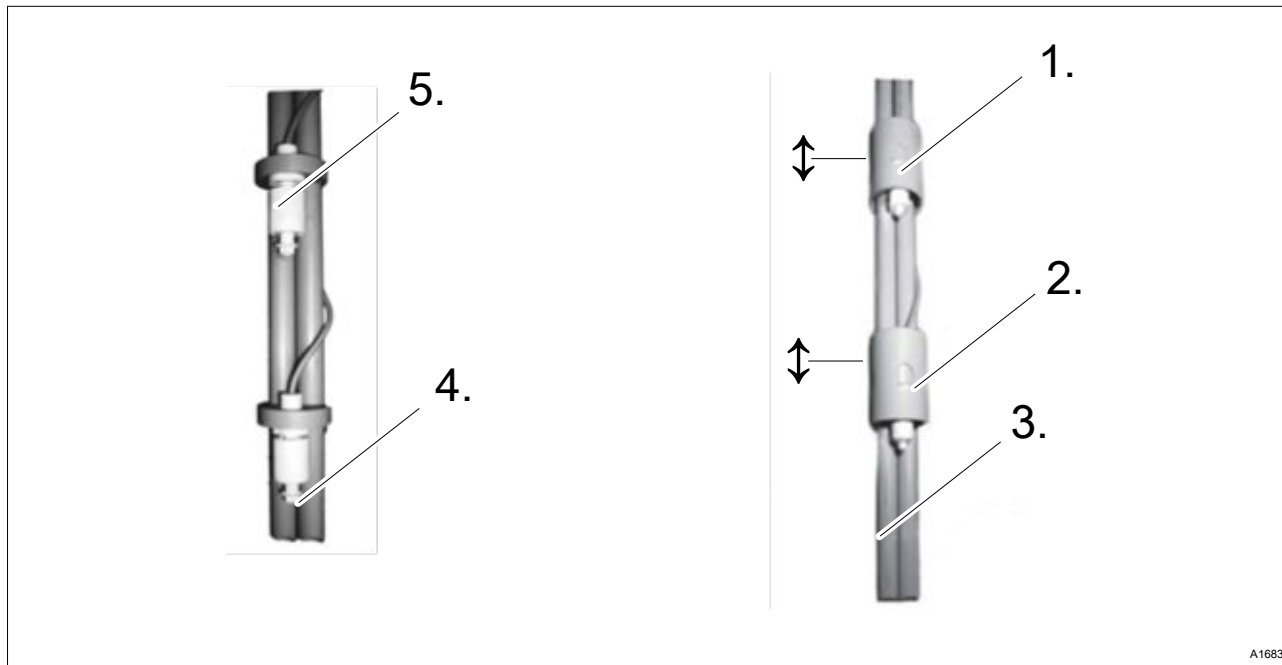

Fig. 1: Components of the universal suction lance
4. ➤ Shorten the universal suction lance's suction tubes, see Fig. 1, depending on the storage tank size to the required dimension
5. ➤ Push the level switch on the two universal suction lance's suction tubes, see Fig. 1, into the desired position. Maintain a minimum spacing of around 1 cm